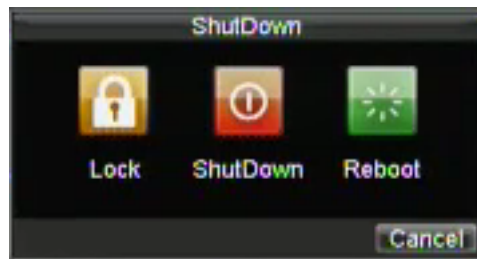

Figure 1. Shutdown Menu
1. Enter the Shutdown menu, shown in Figure 1 by clicking on Menu > Shutdown.
While in the Shutdown menu (Figure 1), you may also reboot or lock your DVR. Locking your DVR will return you to the Live Preview mode, which will require an user name and password to exit out of it. The Reboot button will reboot your DVR.